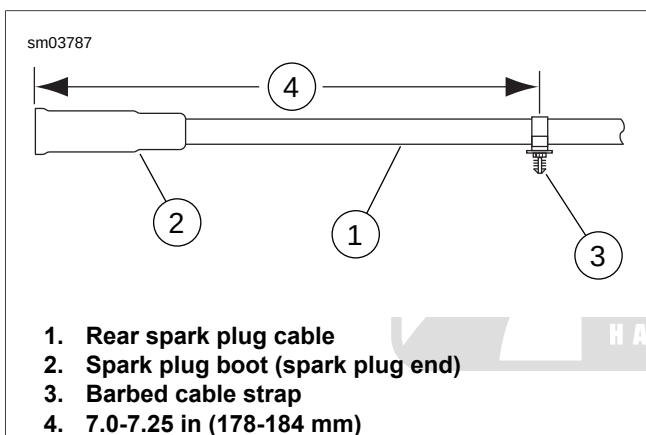

**Figure 6-114. Rear Spark Plug Cable Routing**
9. See Figure 6-114. Raise coil bracket (5) up into position and mount it on boss on left side of frame. Secure coil bracket to ignition switch bracket with screw (6). Tighten to 35-45 **in-lbs** (4.0-5.1 Nm).